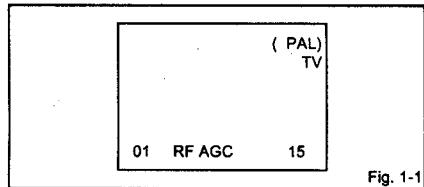

Fig. 1-1
- Press the VOL. DOWN button on the set and the channel button (9) on the remote control for more than 2 seconds to display adjustment mode on the screen as shown in Fig. 1-1.
- Activate the adjustment mode display of Fig. 1-1 and press the channel button (13) on the remote control to select "VCO COARSE".
- Activate the adjustment mode display of Fig. 1-1 and press the channel button (01) on the remote control to select "RF AGC".